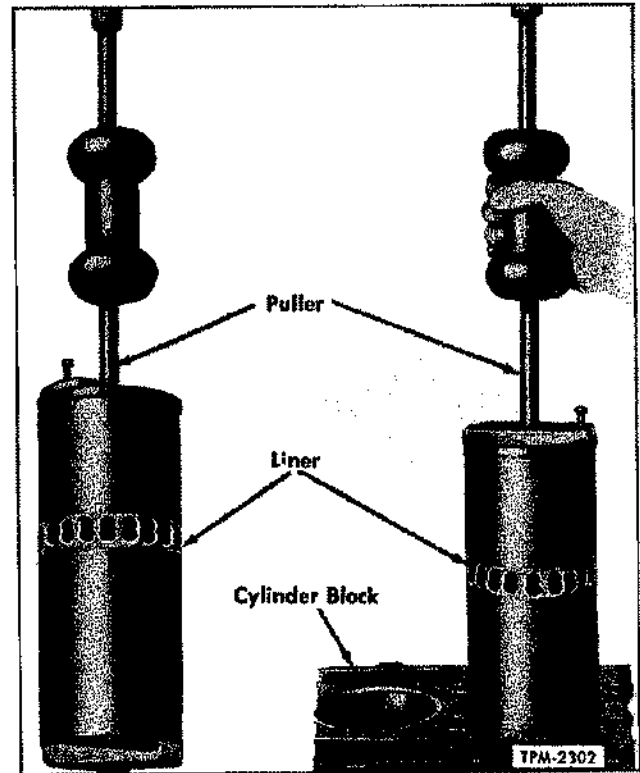

Figure 10—Removing Cylinder Liner
7. Since the cylinder liners are a loose fit, they may be removed easily from the top of the cylinder block by hand, after loosening with the tool illustrated in figure 10. Use tool in following manner: